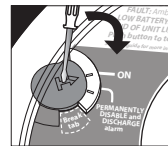

Figure 11.1-A
- Locate the red wheel on the back of the device. Turn the red wheel to the “ON” position on the device using a standard screwdriver. (Figure 11.1-A)